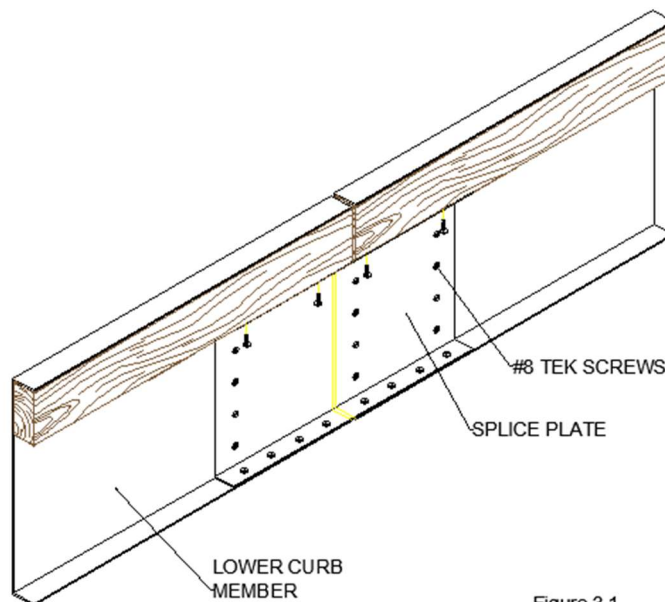

Figure 3.1
- A. Locate two sides with the same side rail identifier (Rail A, B, C, D). Remove from the shipping carton (2) lower curb splice channels, and (2) upper rail splice plates. Butt the two side members to be spliced together so that the squared off ends of both the upper rail and the bottom curb contact one another. Using the #8 SELF-DRILLING screws provided, screw the lower curb members together as shown in figure 3.1.